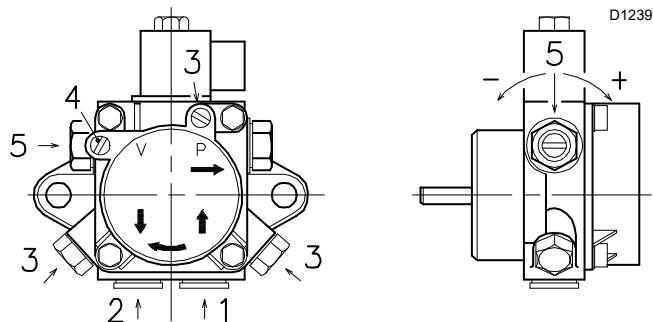

Fig. 22
Key (Fig. 22)
- In order for self-priming to take place, one of the screws 3) (Fig. 22) of the pump must be loosened in order to bleed off the air contained in the suction line.